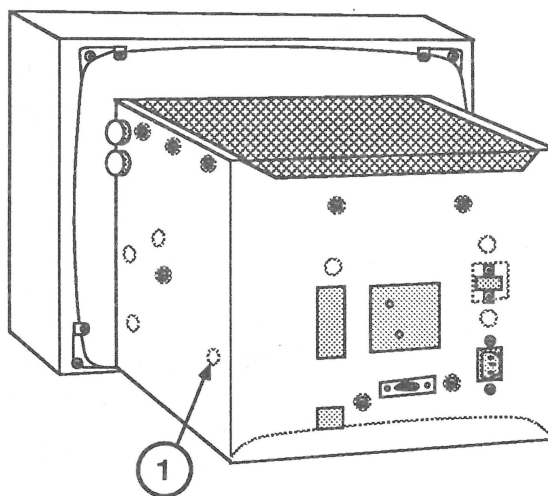

FIGURE 6
2. Using the linearity adjustment tool, adjust the HORIZONTAL LINEARITY control (Figure 6, #1) clockwise or counterclockwise until the raster (illuminated part of the screen) is as wide as possible.